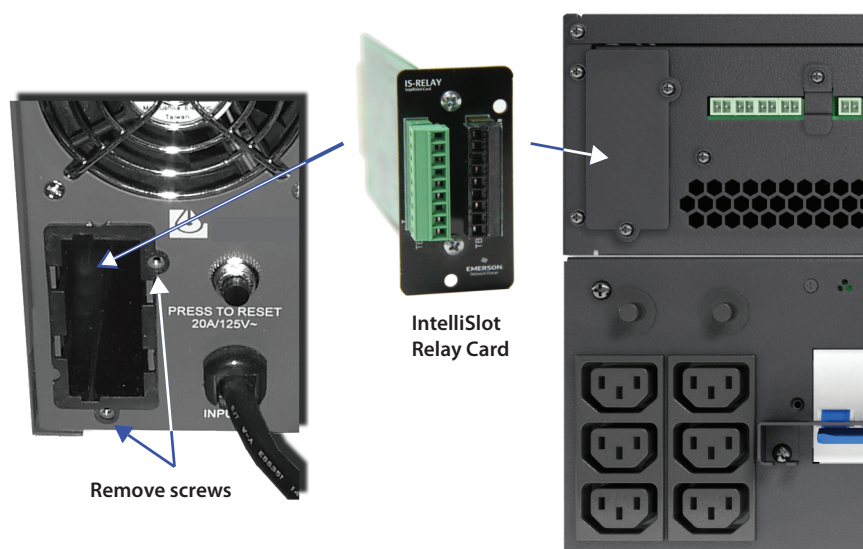

Figure 1: Installation
2. Locate the IntelliSlot port. (See examples in Figure 1.) Refer to the UPS user manual for port location and orientation.
3. Remove the two retaining screws from the IntelliSlot port cover plate (see Figure 1). Save the screws for reassembly in Step 5.